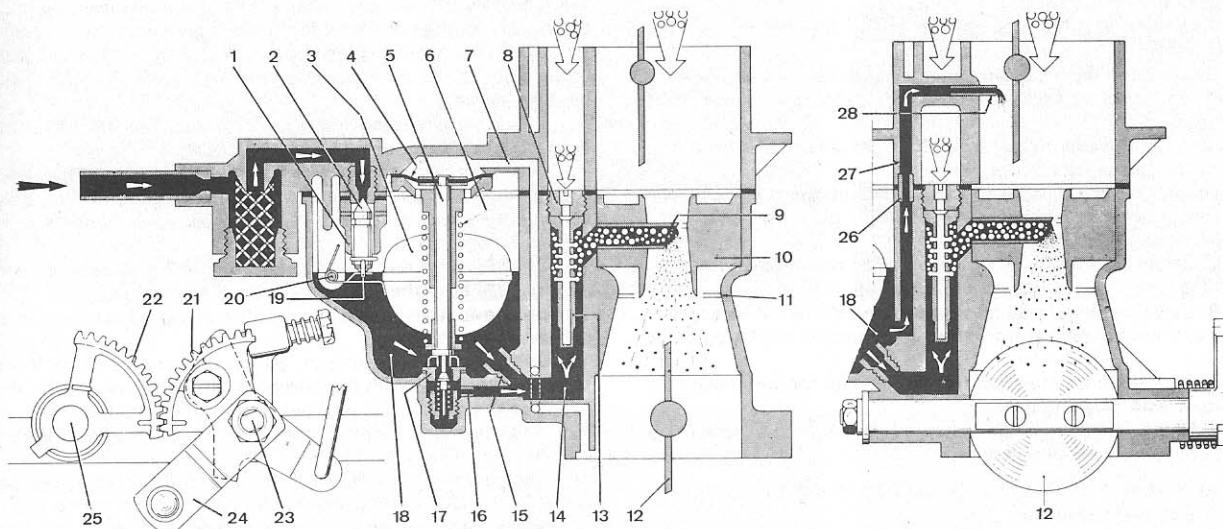

Fig. 9.6 Carburettor normal phase (DGAS types) (Sec 3)
DGAS type carburetors are also equipped with a full power valve which operates immediately the throttle valves are opened quickly. Refer to Fig. 9.6 and note that under these conditions the vacuum through the channel (7) is insufficient to draw the diaphragm (4) against the spring (6). The operating rod (5) therefore opens the full power valve (17). The fuel level in the emulsion tube wells (14) immediately rises and the mixture drawn from the nozzle (9) is enriched. When the throttle valves (12) are partially open, the vacuum through the channel (7) overcomes the tension of the spring (6) and the full power valve shuts.